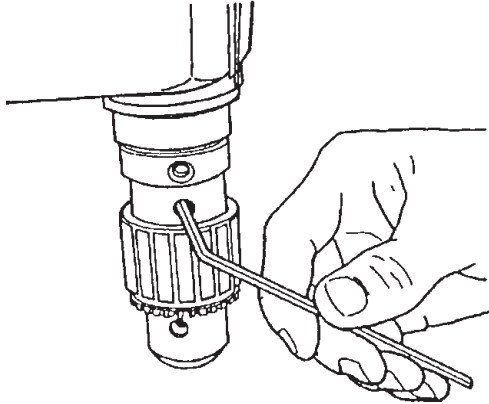

Figure C-15
8. To install the drill chuck, mount the chuck on the spindle and align the chuck's set screw with the spindle knob's set screw, as shown in Figure C-15. This allows the chuck's set screw to set on the flat part of the spindle. Use a 5/32" Allen wrench to securely tighten the drill chuck's set screw.